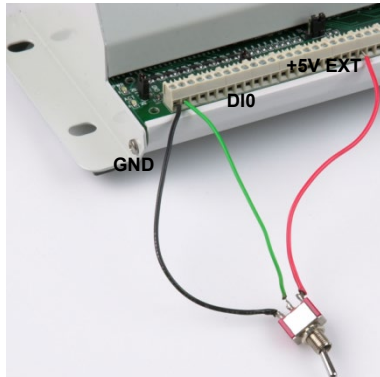
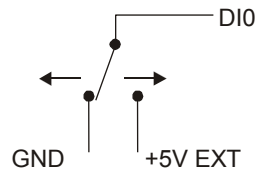

Figure 8. Digital connection DIO detecting the state of a switch
Figure 9. Schematic showing switch detection by digital channel DIO
You can use the USB-1608HS digital I/O terminals to detect the state of any TTL-level input. Refer to the switch circuit shown in Figure 8 and the schematic shown in Figure 9. If you set the switch to the +5V EXT input, DI0 reads *TRUE* (1). If you move the switch to GND, DI0 reads *FALSE* (0).